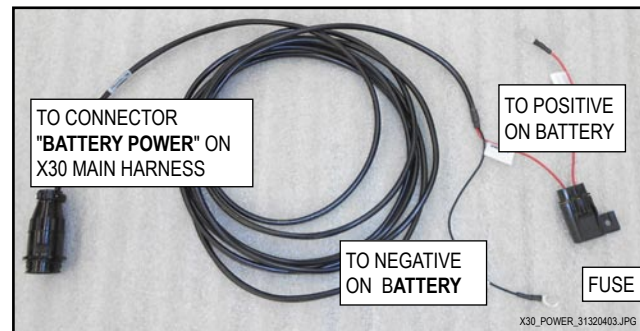

Figure 3 - Power Extension Harness (3132-04-03)
Refer to *Figure 3*. This harness connects X30 main harness to the battery. If auxiliary power connector is available in the cab, this harness is not used.
- c. If the auxiliary power connection does not exist in the cab, connect X30 power extension harness (3132-04-03, *Figure 3*) and route/connect to battery.